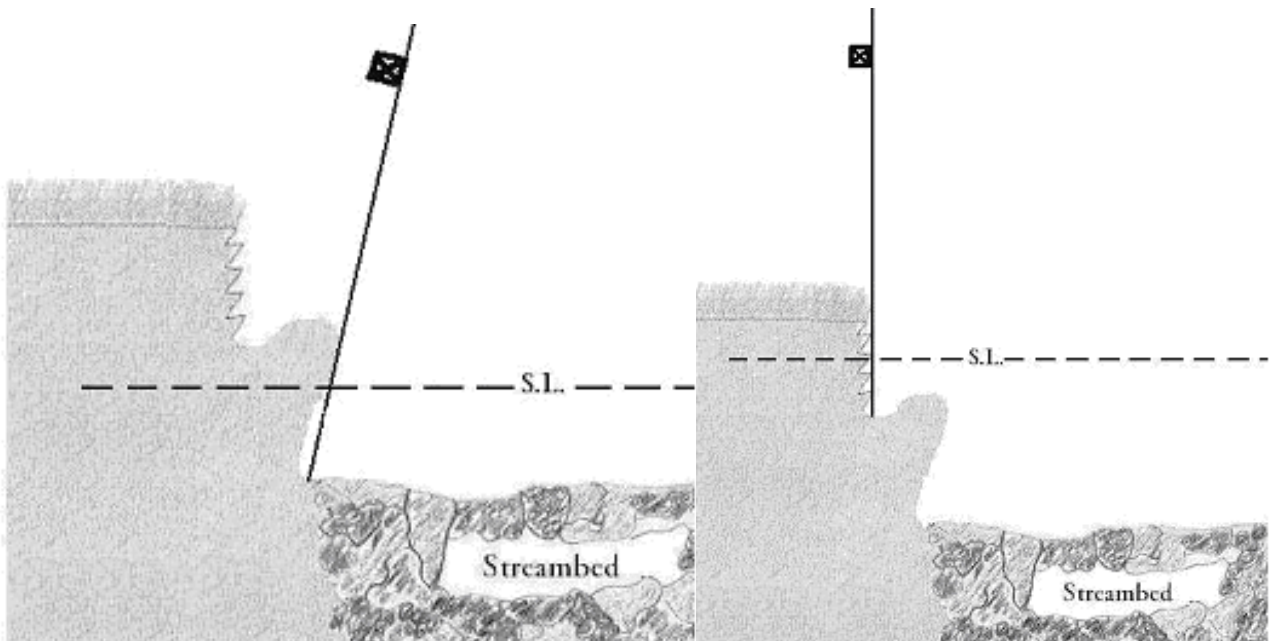

Figure 37: Location of bank angle measurements with a slump block still attached and relative to the scour line.
- If the connection point (i.e. where the top of the slump block meets the bank) is below the scour line, the lower limit of your measurement is the connection point (Figure 37)
- If the connection point is above the scour line, the lower limit of your measurement is where bed meets bank (Figure 37)